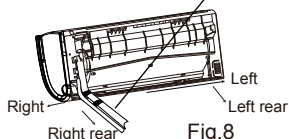

Fig.8
- Take out the piping from body case; wrap the piping, power cords, drain hose with the tape and then make them pass through the piping hole. (As shown in Fig.8)